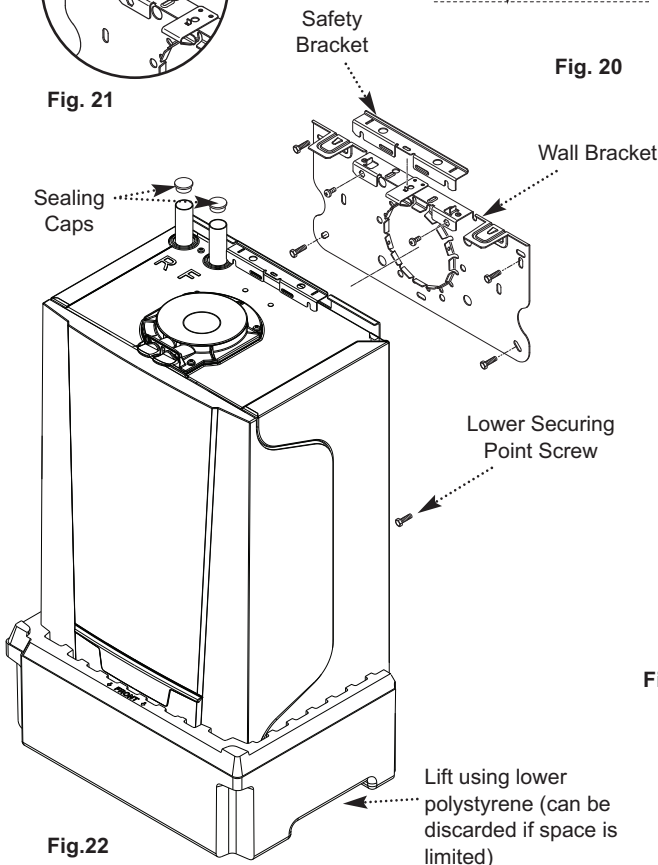

Fig. 22
5.4.3 Making the Water Connections (Fig. 22)